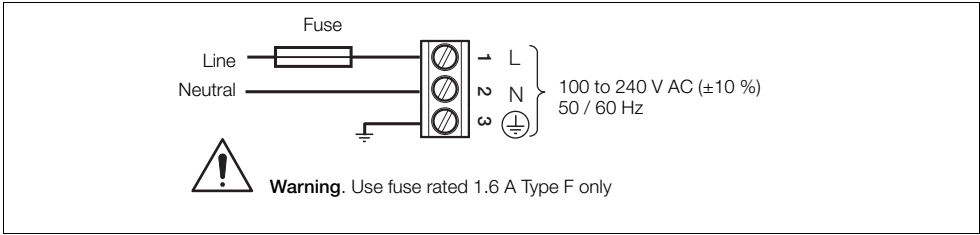

Fig. 4.1 AC Power Supply Connections
- The transmitter is not fitted with a switch therefore a disconnecting device such as a switch or circuit breaker conforming to local safety standards must be fitted to the final installation. It must be fitted in close proximity to the transmitter within easy reach of the operator and must be marked clearly as the disconnection device for the transmitter – see Fig. 4.1, page 12.